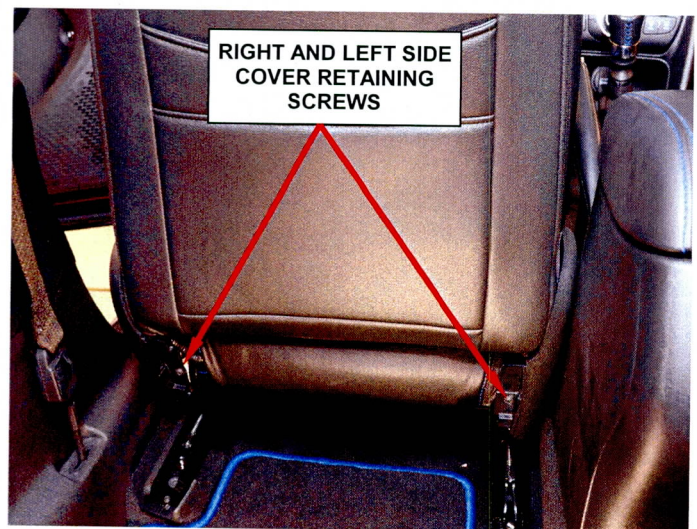

Figure 2 – Side Cover Retaining Screws
4. Remove and save the right and left side cover retaining screws from both front seats (Figure 2).